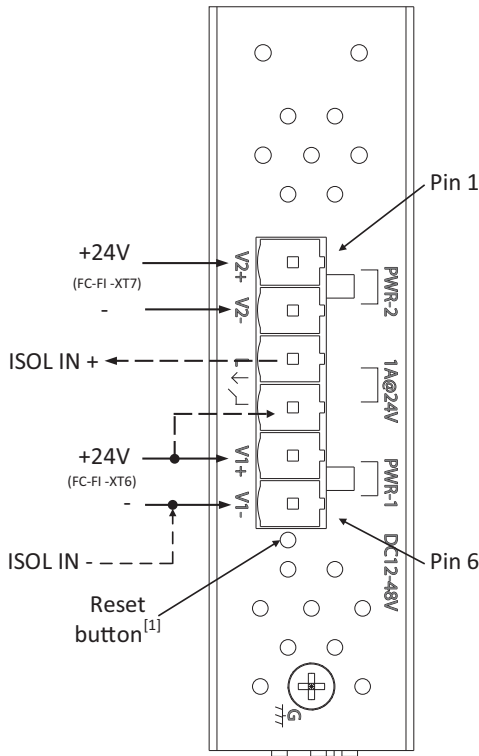

Fig. 3: POS800 connectors overview
- The POS800 Ethernet switch also provides a volt-free relay contact to which you can connect the FC-FI isolated inputs (ISOLIN 1, ISOLIN 2) for fault monitoring. If required, connect a bypass wire from V1+ (pin 5) on the Ethernet switch connector to pin 4 on the same connector. Additionally, connect the wire from pin 3 on the Ethernet switch to ISOL IN+ on the FC-FI board and from V1- on the Ethernet switch to ISOL IN- on the FC-FI. Refer to Fig. 3. Use a minimum 16/0.2 wire (not supplied).